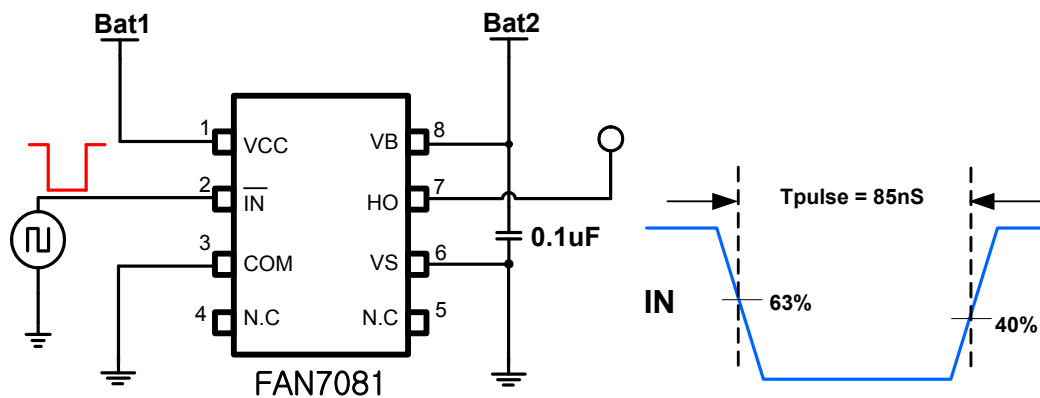

Figure 4a.Short Pulse Width Test Circuit and Pulse Width Waveform
3) Guaranteed by design. Refer to Figure4a,4b and 4c on Page 8.